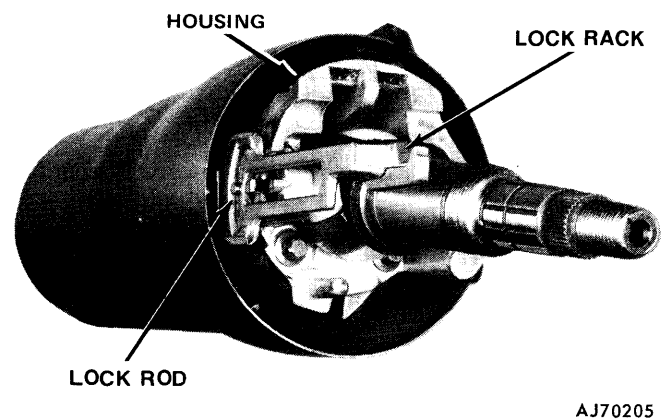

Fig. 11-43 Lock Rack and Remote Rod Position
(13) Install pin and shift gate in support.
(14) Install support in shift bowl. Align V-notch in support with notch in column jacket (located at 9 o'clock position).
(15) Install support-to-shift bowl attaching screws.
(16) Assemble steering shaft.
(17) Install steering shaft through upper end of column.
(18) Install ball bearings in housing if removed. Be sure there are 14 balls in each bearing.
(19) Install tilt release handle.
(20) Insert ignition switch remote rod between shift bowl and column jacket, and into guide channel in left side of support.
(21) Place lock rack on remote rod (fig. 11-43).
(22) Guide housing over steering shaft and lock rack and align lock shoes with teeth in support.
(23) Align housing and support pivot pin holes and install pivot pins using fiber mallet or brass drift.
(24) Install lock shoes, lock shoe springs, tilt bumpers, and lockpin in housing.
(25) Install lock sector and sector shaft. Large tooth on sector must engage large slot in lock rack.